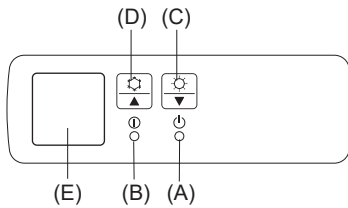

Fig. 4-2
[Fig. 4-2] (A) Defrost/Standby lamp